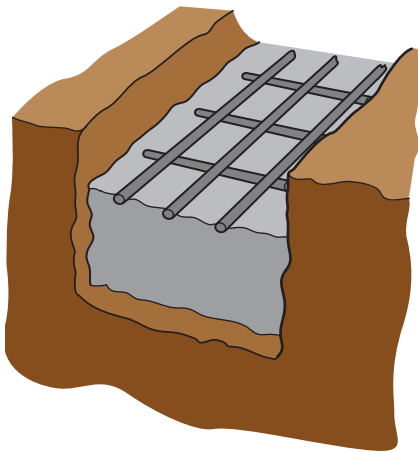

Figure 4 Long bars on top when steel mesh is laid in the upper part of foundation concrete
- laid with the long bars uppermost (Figure 4).